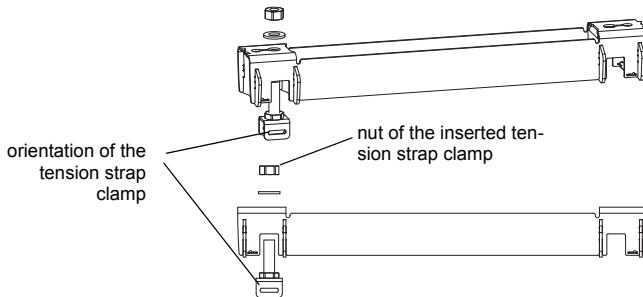

Fig. 7.12: Rail Variofix L
- Place the second tension strap clamp in the rail. Observe the orientation of the tension strap clamp (see Fig. 7.12).